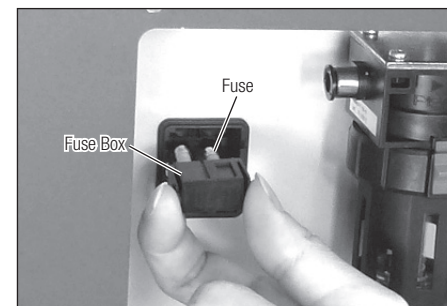

Fig. 30
- 3) Pull out and remove the Fuse while squeezing the ratchets of the Fuse Box inward at the same time (Fig. 30).